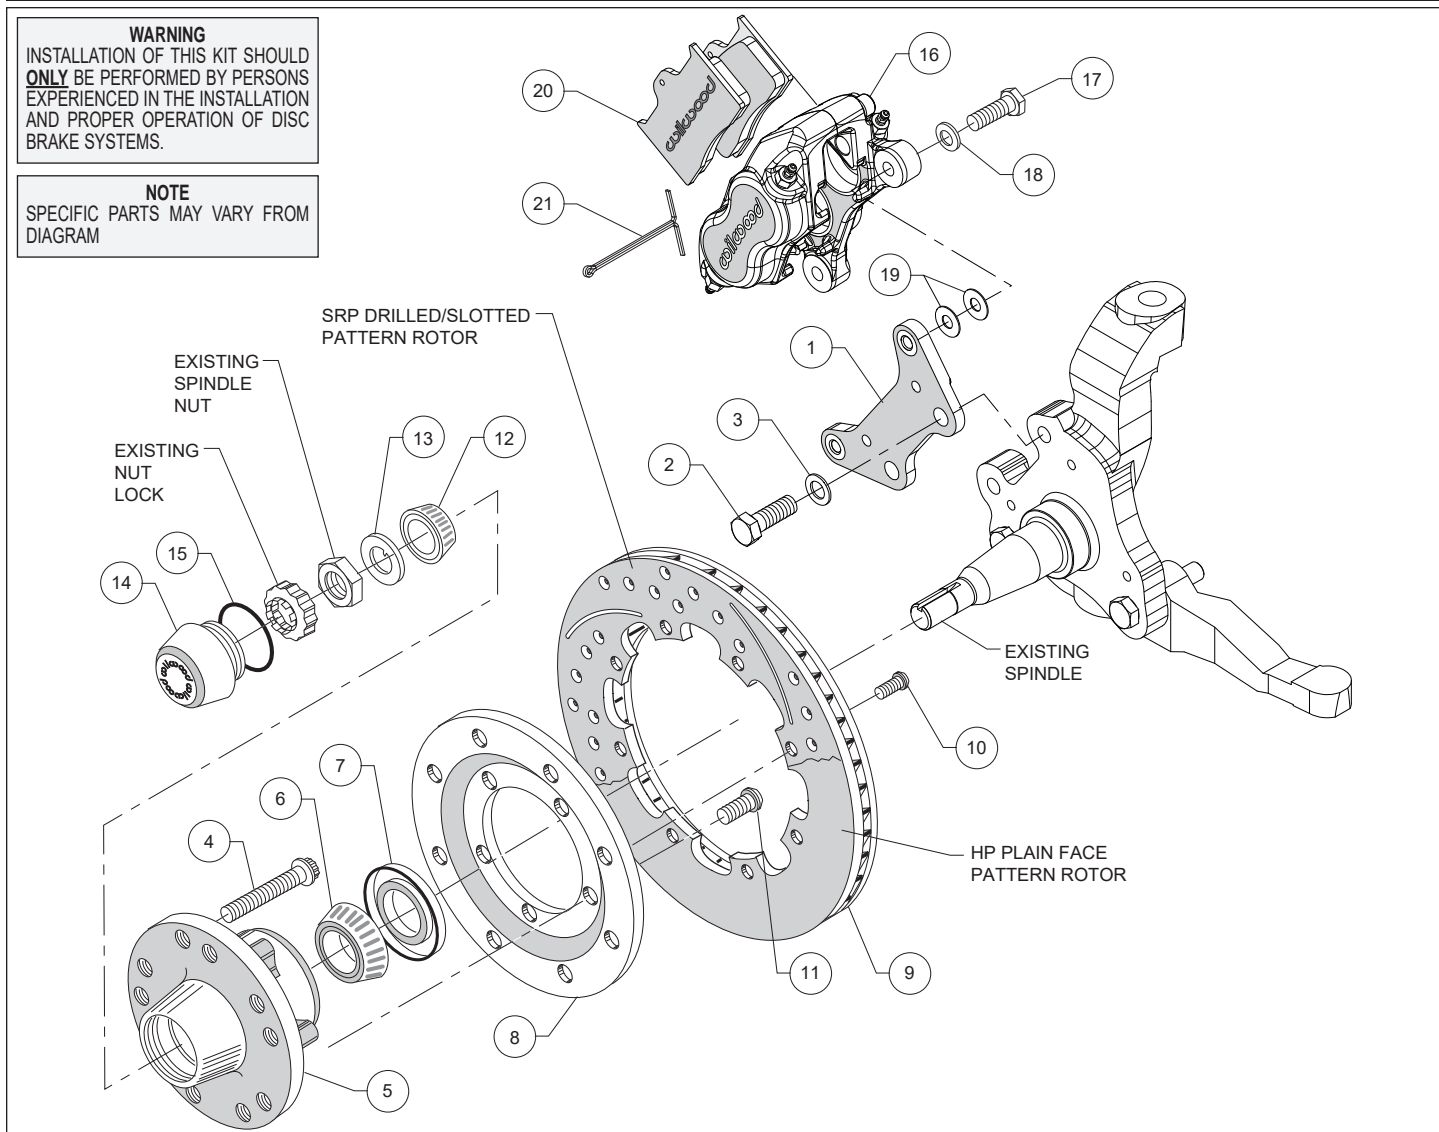
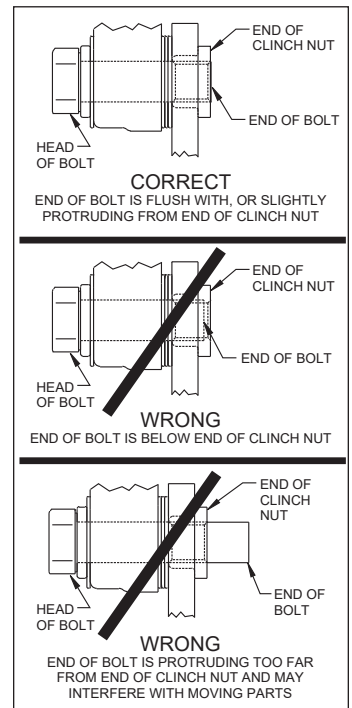

Figure 1. Typical Installation Configuration
Figure 3. Clinch Nut Engagement Diagram
**Assembly Instructions** (numbers in parenthesis refer to the parts list, on the preceding page and Figure 1): **CAUTION:** All mounting bolts must fully engage clinch nuts. Be sure to check that all bolts are either flush or protruding through flanged side of clinch nut after shimming, Figure 3.
- Align caliper mounting bracket (1) with the corresponding holes, to the face of the spindle. Attach using bolts (2), and washers (3), as shown in Figure 1 and Photo 1. Temporarily tighten the mounting bolts. Ensure that the flanged heads of the clinch nuts in the bracket are facing outboard, Photo 1. **NOTE:** The bracket must fit squarely against the mounting points on the spindle. Inspect for interference from casting irregularities, machining ridges, burrs, etc. Remove bolts one at a time, apply red *Loctite*® 271 to threads and torque to 77 ft-lbs.
- Orient the rotor (9) and the rotor adapter (8) as shown in Figure 1 and Photo 4. Attach the rotor to the adapter using bolts (10). Using an alternating sequence, apply red *Loctite*® 271 to the threads, and torque to 25 ft-lb.
- Mount the adapter/rotor assembly (8 and 9) to the hub (5) using bolts (11), as shown in Figure 1 and Photo 5. Using an alternating sequence, apply red *Loctite*® 271 to the threads, and torque to 45 ft-lb.
- NOTE:** Please reference the caution statement at the beginning of the assembly instructions. Mount the caliper (16) onto the caliper mounting bracket (1) using bolts (17) and washers (18), as shown in Figure 1. Initially place two .035" thick shims (19) on each bolt between the caliper and the bracket, Photo 8. Temporarily tighten the mounting bolts and view the rotor (9) through the top opening of the caliper. The rotor should be centered in the caliper, Photo 9. If not, adjust by adding or subtracting shims between the bracket and the caliper. Always use the same amount of shims on each of the two mounting bolts. **NOTE:** The end of each bolt must be flush with or slightly protruding from the head of the clinch nut, as shown in Figure 3. If necessary place spare shims between washer (18) and caliper mounting ear to achieve the proper clinch nut engagement. Once the caliper alignment and clinch nut engagement are correct, remove the bolts one at a time, apply red *Loctite*® 271 to bolt threads, and torque to 40 ft-lb.